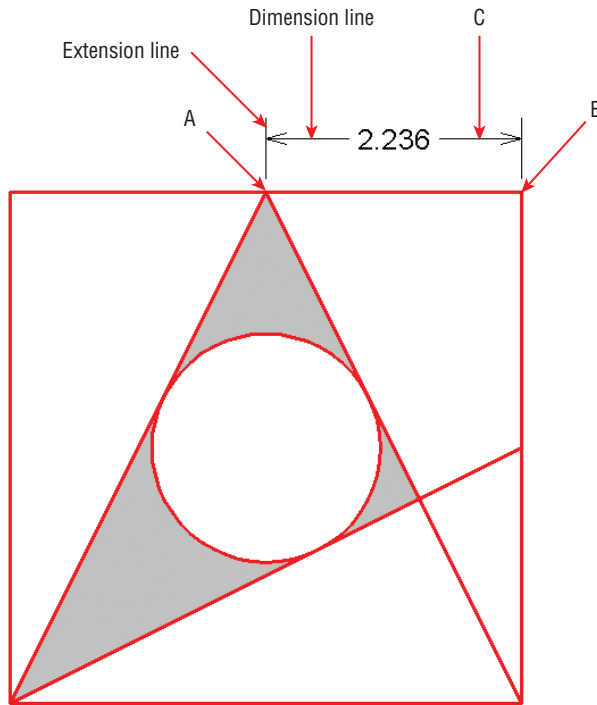

FIGURE 11.13 Creating a linear dimension by clicking three points
3. Click the Linear dimension tool on the Annotation panel. Click points A and B to specify the first and second extension line origin points, as shown in Figure 11.13. Click point C to specify the dimension line location.